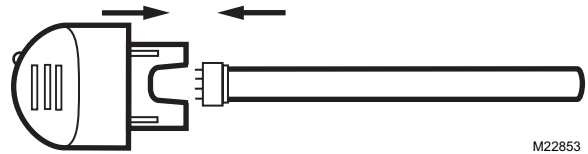

Fig. 16. Replace lamp glass in SnapLamp™ handle.
6. Insert the new lamp glass into the SnapLamp™ handle by aligning the key and pushing straight together. See Fig. 16.